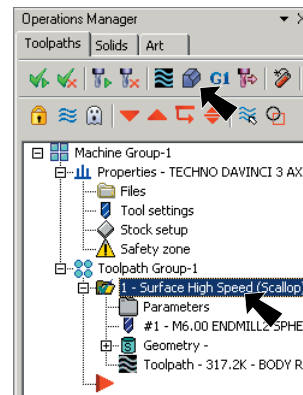

Fig. 20
Step 1. In the Toolpaths Manager, click the **Scallop toolpath** to select toolpath, **Fig. 20**.
Step 2. Click **Verify**  in the Toolpaths Manager, **Fig. 20**.